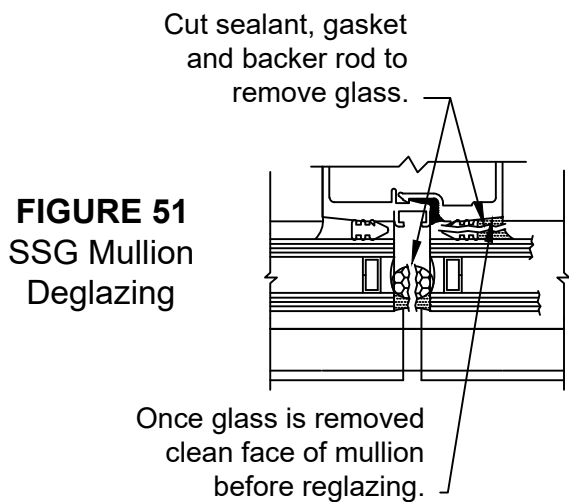

FIGURE 51
- R.8 Vertical structural silicone joints must be cut to remove broken lite of glass. SEE FIGURE 51.